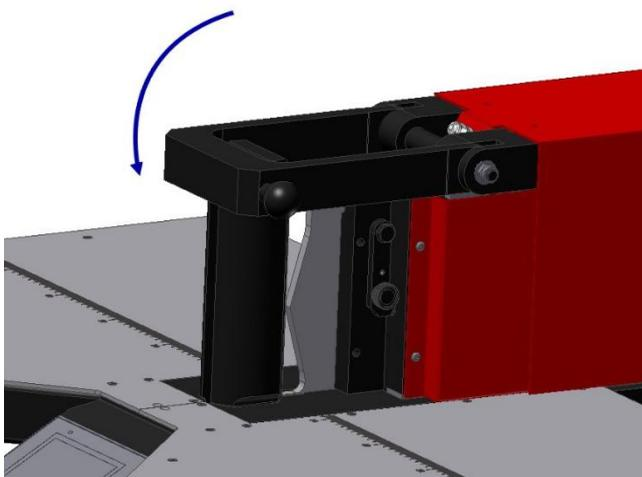

Fig. 41.
- Close the safety clamp (fig. 41).